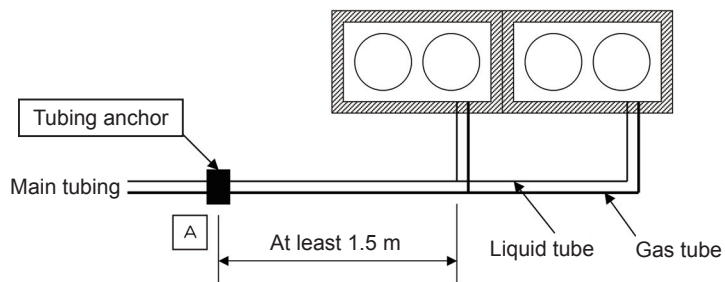

Fig. 22
**(2) When Using Interlocking Frames**
- When determining the anchor position, refer to the dimensions for A in Fig. 22.